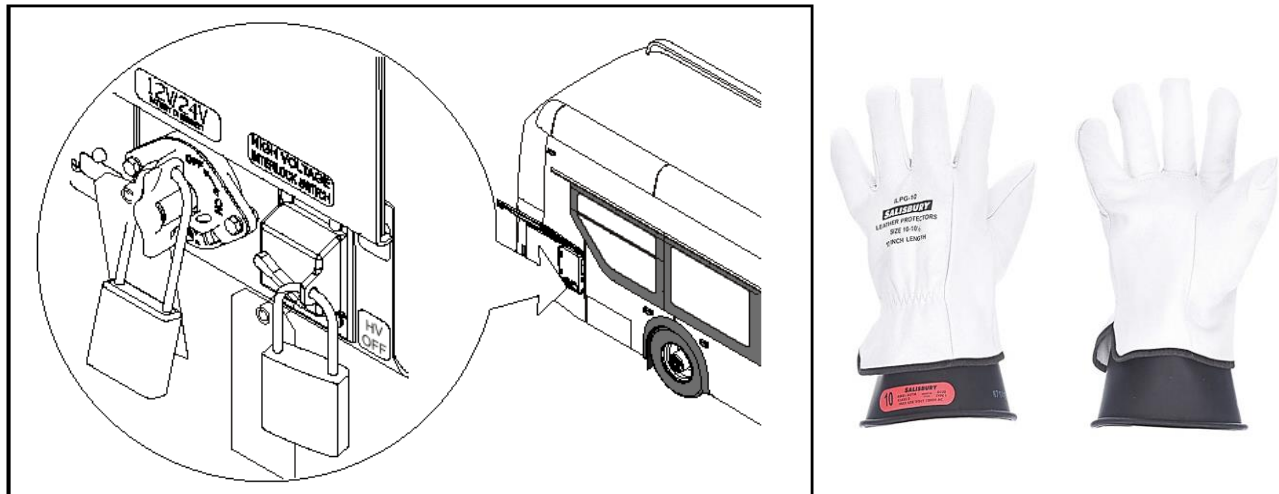

Figure 1: HV and LV Disconnect Switch Location and Arc Flash Glove Reference
3. Perform the Lock Out Tag Out and De-Energizing procedures found in the Electrical System Section of the New Flyer Service Manual. Reference Figure 1 below.